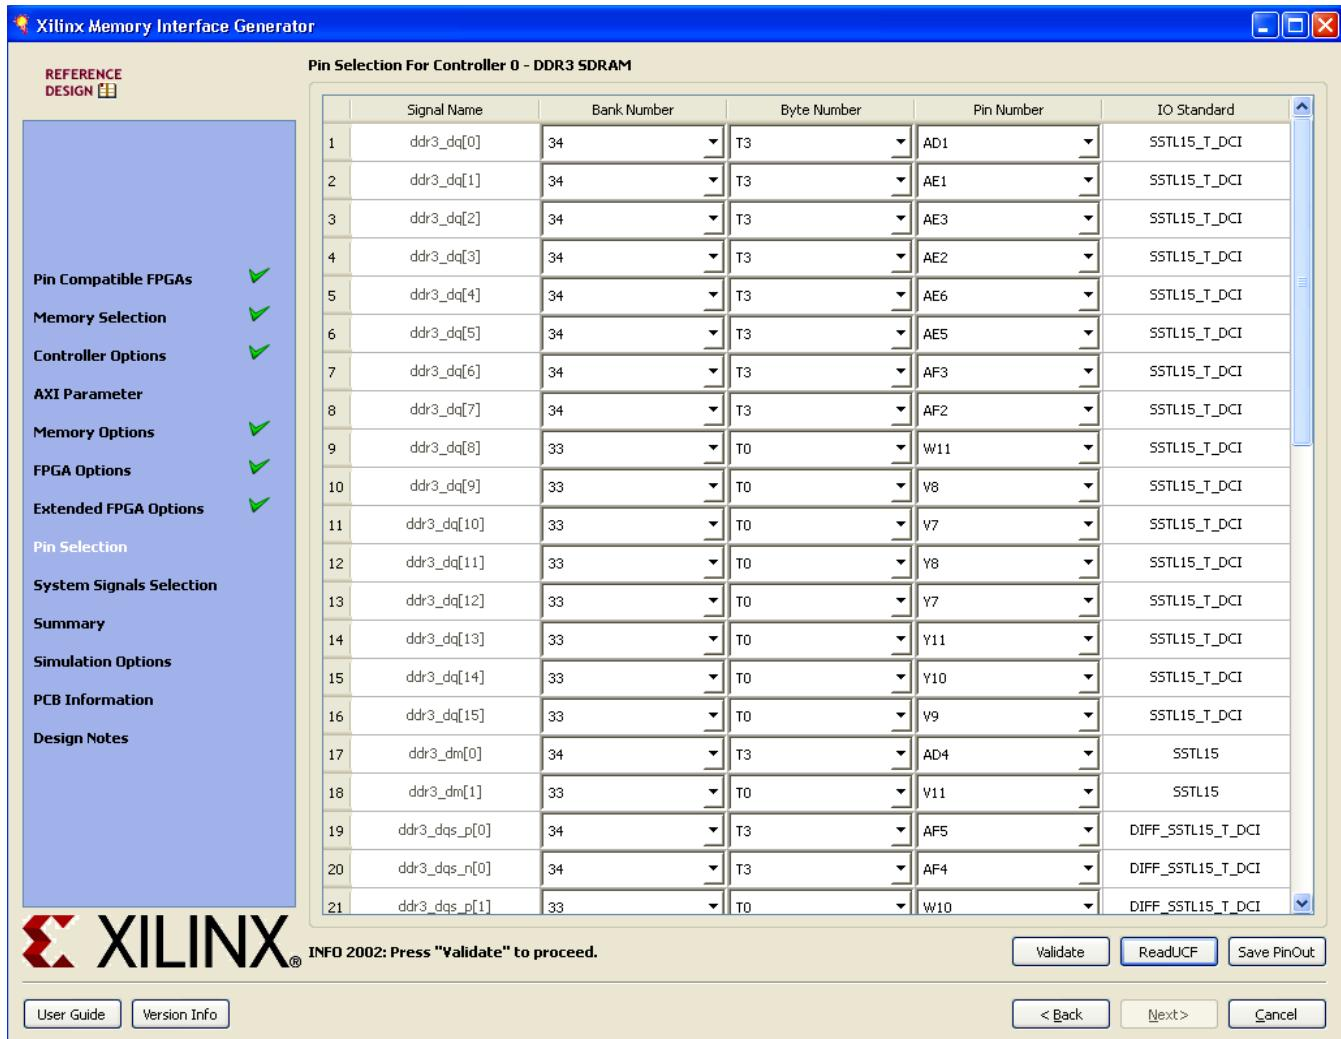

Figure 1-24: Pin/Bank Selection Mode
- **Pin/Bank Selection Mode** – This allows you to specify an existing pinout and generate the RTL for this pinout, or pick banks for a new design. Figure 1-24 shows the options for using an existing pinout. You must assign the appropriate pins for each signal. A choice of each bank is available to narrow down the list of pins. It is not mandatory to select the banks prior to selection of the pins. Click **Validate** to check against the MIG pinout rules. One cannot proceed until the MIG DRC has been validated by clicking **Validate**.